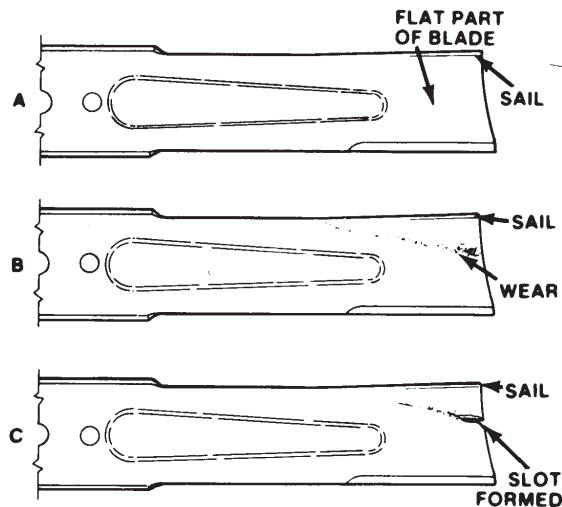

Figure 13
2. Examine cutting ends of the blade carefully, especially where the flat and curved parts of the blade meet (Fig. 13-A). Since sand and abrasive material can wear away the metal that connects the flat and curved parts of the blade, check the blade before using the machine. If wear is noticed (Fig. 13-B), replace the blade; refer to Removing the Cutter Blade, page 13.
If the blade is allowed to wear, a slot will form between the sail and flat part of the blade (Fig. 13-C). eventually a piece of the blade may break off and be thrown from under the housing, possibly resulting in serious injury to yourself or bystanders.